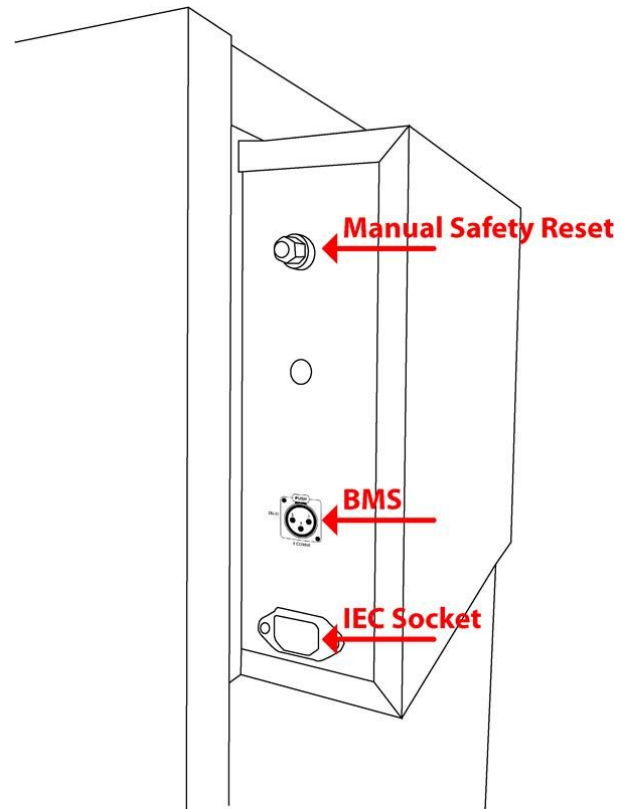
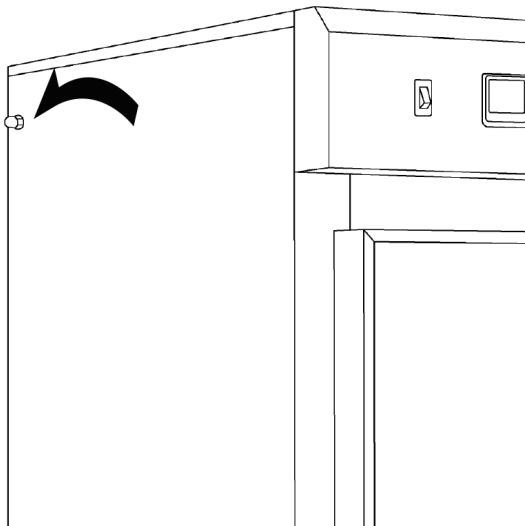

Fig 2. TBW-360F - 520F
Fig 1. TBW-250F-1-GD
- Locate the safety reset at the back of the TBW-360/520F models (**Fig 2**) or on the side of the TBW-250F (**Fig 1**). It is displayed as a red or black knob.